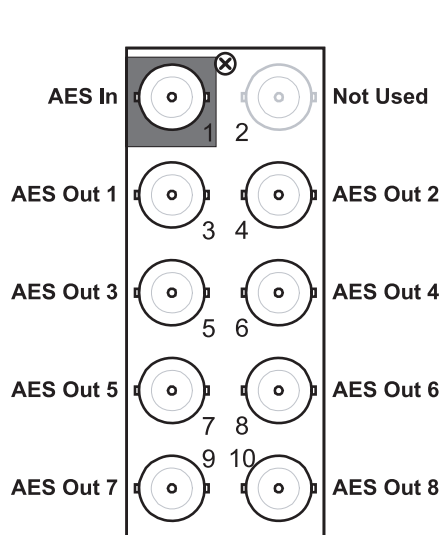

Figure 2.2 Cable Connections for the 8310AR-030 and 8320AR-030 Rear Modules
- **8310AR-030** Rear Module — Each module occupies one slot and accommodates one card. This rear module provides one AES input and eight AES outputs. (**Figure 2.2**)
- **8320AR-030** Full Rear Module — Each module occupies two slots and accommodates one card. This rear module provides one AES input and eight AES outputs. (**Figure 2.2**)